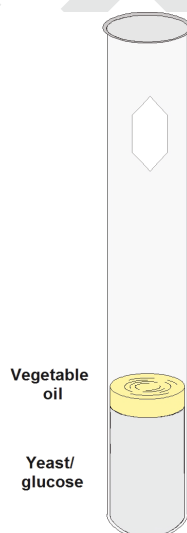

Figure 2
7. Place enough vegetable oil into the test tube to completely cover the surface of the yeast/glucose mixture as shown in Figure 2. Be careful to not get oil on the inside wall of the test tube.